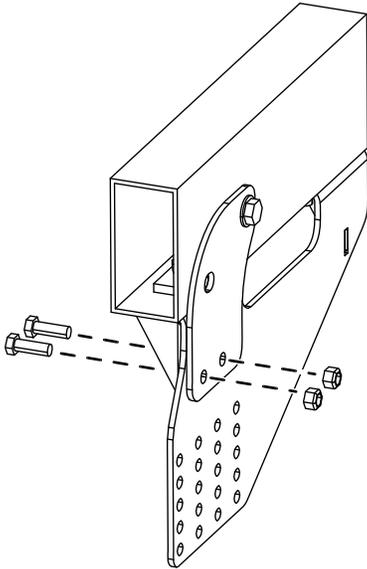

Figure 10
7. Attach the side straps to the side plates using 2 bolts (1 x 1/2 inch) and 2 nuts (1/2 inch) as shown in Figure 10.